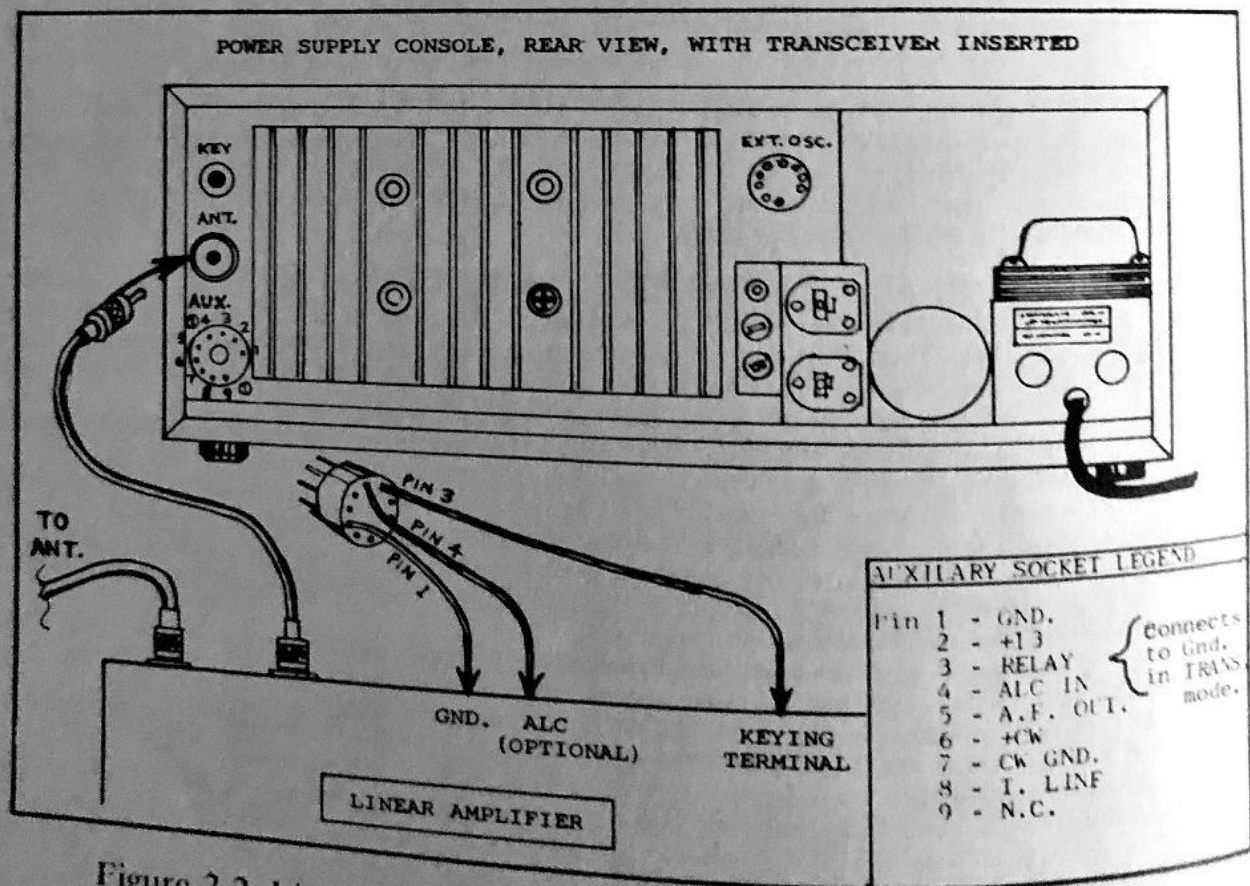

Figure 2-2. Linear Amplifier Connections to ATLAS Transceiver
**2-21. LINEAR AMPLIFIER CONNECTIONS.** Figure 2-2 illustrates how to connect a linear amplifier to the Atlas transceivers. ALC output from the linear may be connected to Pin 4 on the AUX. socket plug. The ALC control voltage from the linear *MUST* be positive going. Most linears with an ALC output circuit are negative going. If this is the case with your linear, and you wish to utilize ALC control from the linear, it will be necessary that you modify the linear ALC circuit. This will usually consist of reversing one or two diodes in order to generate a positive voltage control instead of negative.